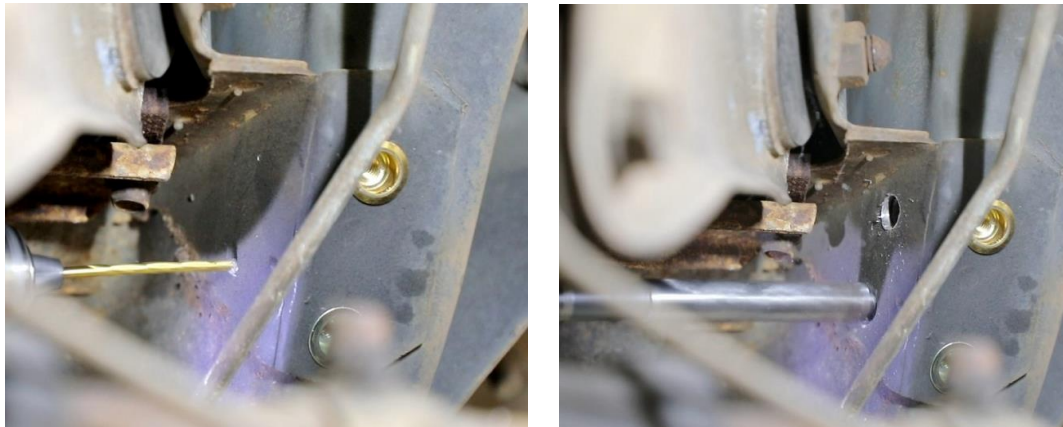

Figure 20 - Drill Inside Frame Rail
23. Raise the rear axle back up to gain access to drill the two marked locations on the inside frame rail. Drill out the two remaining holes to a final drill size using a 17/32" drill bit (Figure 20). **NOTE:** It is recommended that pilot holes be drilled first before drilling the 17/32" holes.